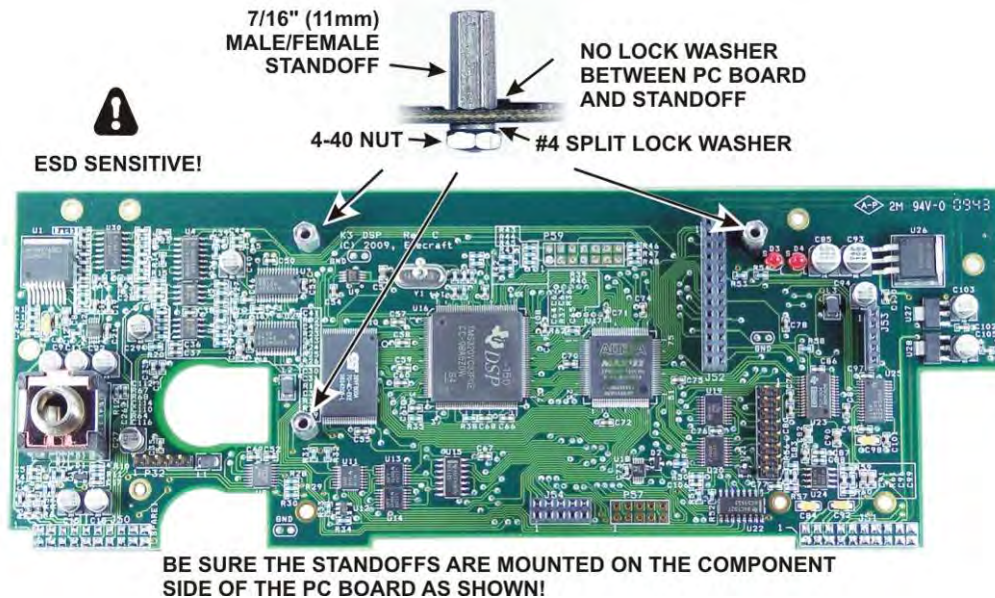

Figure 53. Installing Standoffs on the Main DSP Board.
□ Mount the three 7/16" (11mm) male/female standoffs on the component side of the *main* DSP board as shown in Figure 53 using 4-40 nuts and #4 split lock washers. Be sure that: